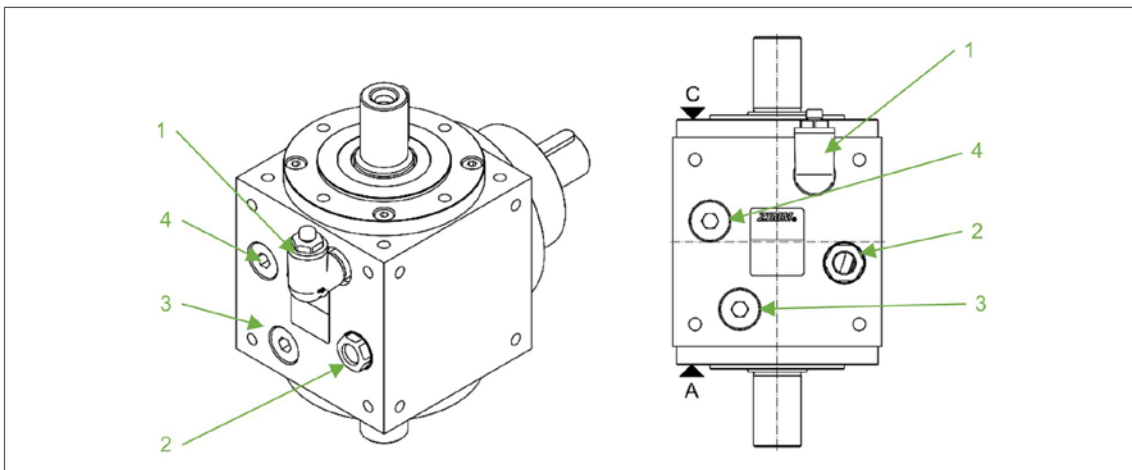

Fig. 6: Example position of breather and oil sight glass
- 2. Loosen the sealing screw located at the position “Oil sight glass” (Fig. 6).